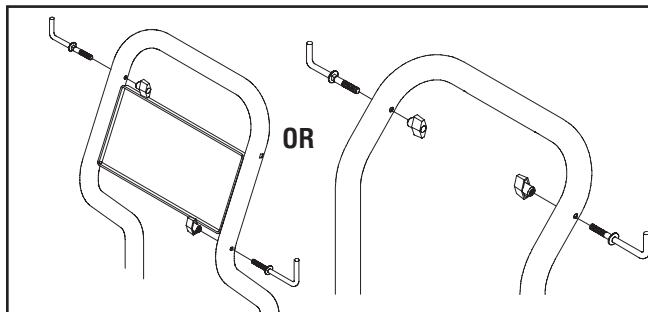

Figure 4 — Attach “L” Hooks to Handle
2. Insert one “L” hook through hole just above billboard or cleaning tank on left side of handle (viewing from front of unit) and attach plastic knob. Tighten knob by hand (see Figure 4).
- 3A. Insert other “L” hook through hole just below billboard on right side of handle (viewing from front of unit) and attach plastic knob. Tighten knob by hand (see Figure 4).
- 3B. Insert other “L” hook through hole just above billboard or cleaning tank on right side of handle (viewing from front of unit). Hold hook in place and attach plastic knob from inside of unit (see Figure 4). Tighten by hand.